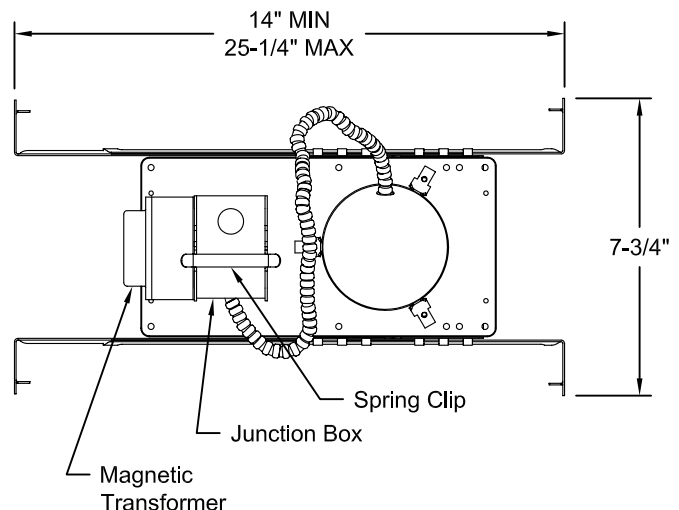

Figure 2
3. Connect conduit (AC120V supply wires) to Junction Box (See Fig. 2) using appropriate connector.
4. Connect Black supply wire from Transformer (See Fig. 2) to Black supply wire (120V) in Junction Box.
7. Tuck all wires carefully and completely into Junction Box. Lock Cover with Spring Clip (See Fig. 2) on top.